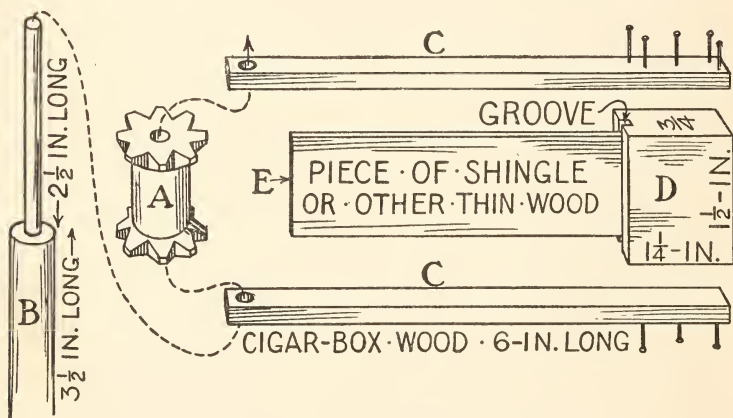

FIG. 116. — Details of the Noisy Cricket-Rattle shown Fig. 114.
**A Cricket-Rattle** is about the liveliest form of rattle ever devised (Fig. 114). After constructing one for your sister or brother, you probably will decide to make one for yourself. For this rattle, first prepare a *notched spool* (*A*, Fig. 116). The notches in this need not be cut as perfectly as shown, but the notches in one end of the spool must be exactly opposite those in the other end. Whittle the *handle* *B* to the shape and size shown, cut the strips *C* out of cigar-